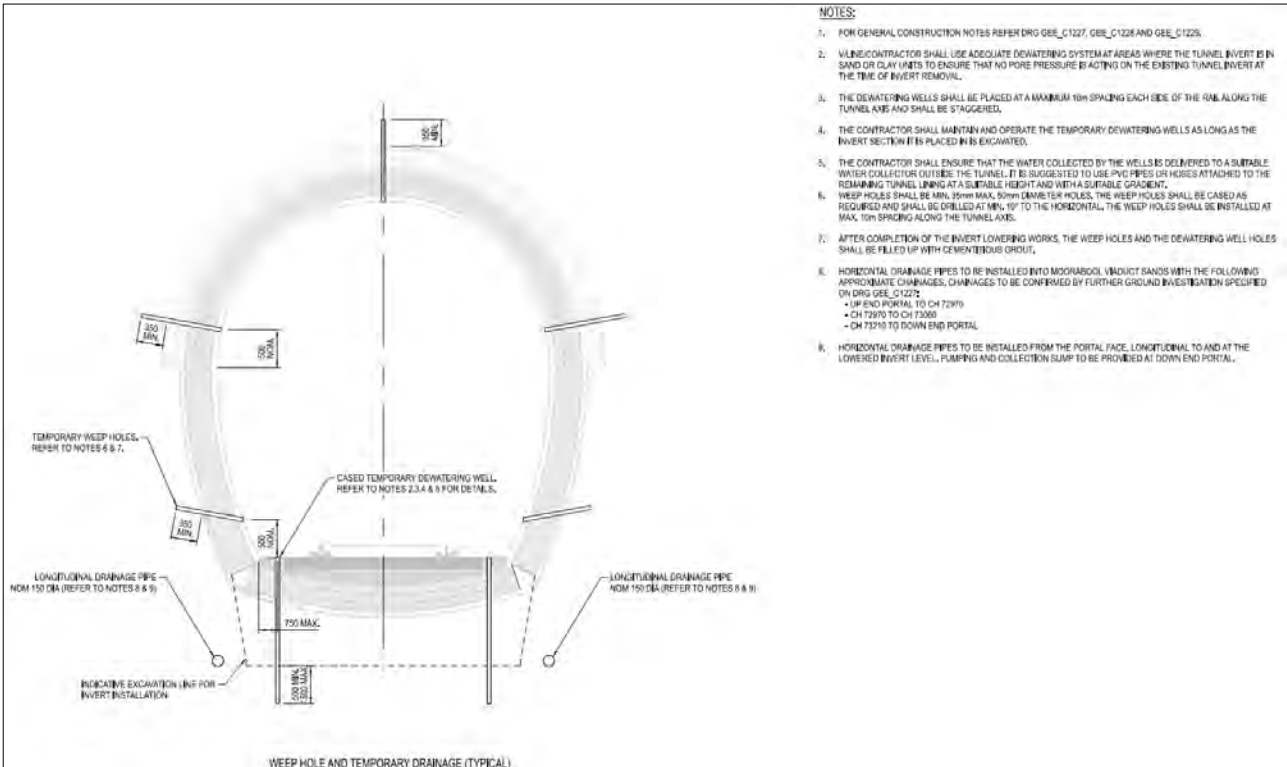

FIGURE 30: TYPICAL CROSS SECTION OF TUNNEL SHOWING WEEP HOLES AND TEMPORARY DRAINAGE SUPPORTING INVERT LOWERING WORKS. (SOURCE: AURECON/VLINE)
- o **Drainage:** 20mm to 50mm diameter weep holes shall be drilled through the existing concrete / brick masonry within the tunnel lining (see Figure 30).
- o horizontal drainage pipes are to be installed into moorabool viaduct sands. Horizontal pipes to be installed from portal face, longitudinal to lowered invert level (see Figure 30).